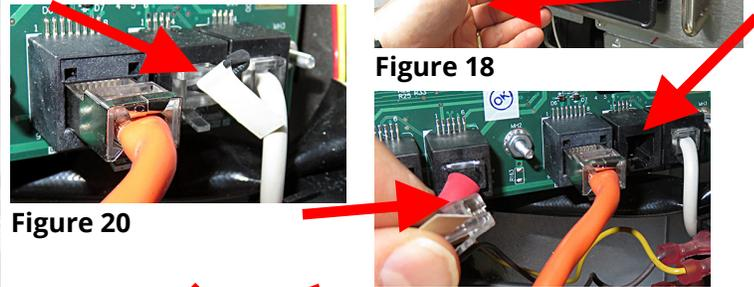

Figure 18
23. Slide the controller up while pulling the bottom out (see Figure 18).